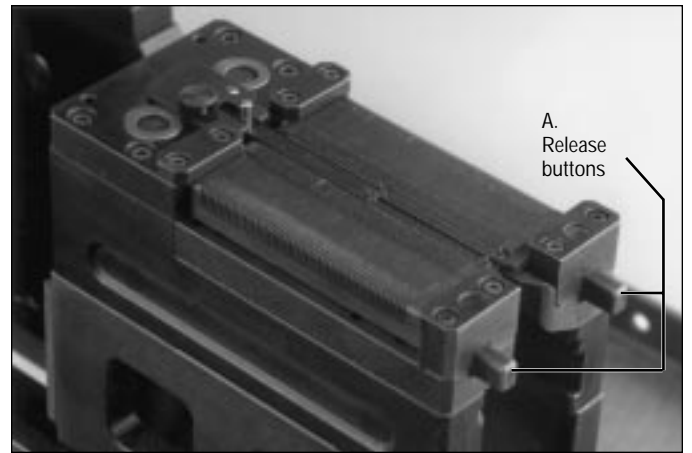

Figure 7. "U" cover plate
4. Holding the connector stop down in place, replace the yolk shaped cover plate and tighten the thumbscrew. To verify the connector stop is correctly installed, press the release buttons on the front of the fixture unit (A of Fig. 7) and the connector stop should spring to the back. Close the grooved plates and the stop should spring forward again.
3. Place the first cover, shaped like the letter "U", into the slot at the top of the fixture unit (Fig. 7), open end toward the operator and the grooved side with the posts facing up. Push the cover down in the slot and back against the spring loaded connector stop previously installed to lock it in place.